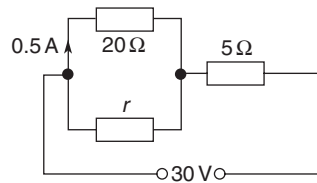

Fig. 21
4. Calculate the value of the resistor r in the circuit of Figure 21.